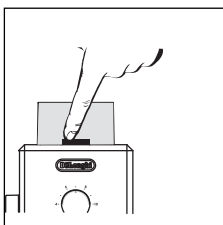

fig. 6
- Press the ON/OFF switch to start the appliance (Fig. 6).